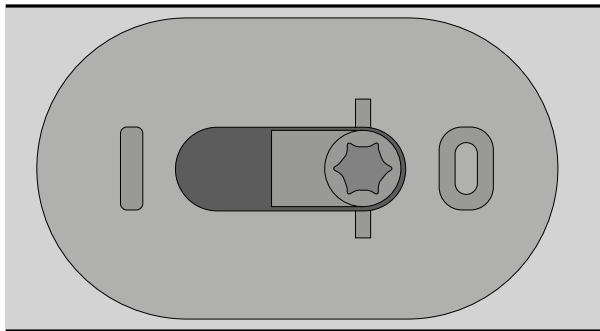

Figure 8-7.1. Hinge activation fastener (shown in de-activated position).
To de-activate the hinges move the T-20 torx fastener from position one (1) to position zero (0) by turning the fastener 9 to 9-1/2 turns (see figures 8-7.1 and 8-7.2 for activated and deactivated positions).